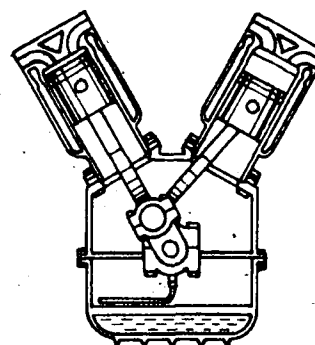

Fig. 7
- *V-shaped Engines.* The cylinders are arranged in the block to form a fixed angle, which varies according to the type of engine (fig. 7). In this way the length of the block is shortened.